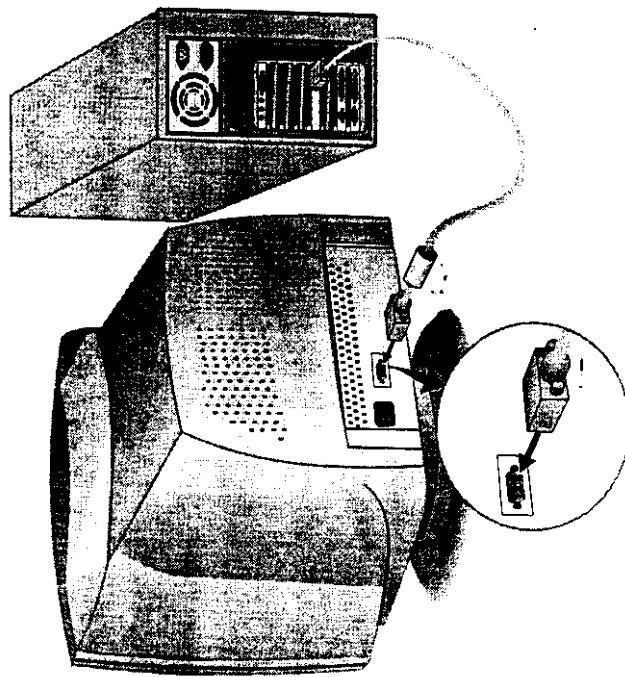

Figure 4: Connecting the Signal Cable(17c/cx/cv)
- Connect the other end of the signal cable to your ComfortView Monitor(for 17c/cx/cv only) as shown in Figure 4.